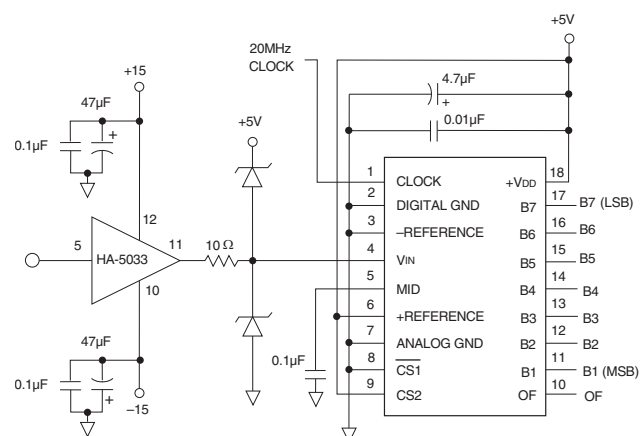

Figure 2. Typical Connections for Using the ADC-207
1. Input Buffer Amplifier – Since the ADC-207 has a switched capacitor type input, the input impedance of the 207 is dependent on the clock frequency. At relatively slow conversion rates, a general purpose type input buffer can be used; at high conversion rates DATEL recommends either the HA-5033 or Elantec 2003. See Figure 2 for typical connections.